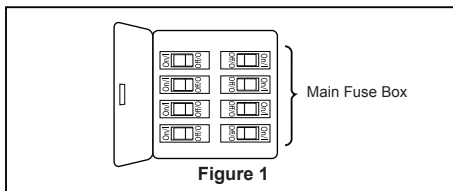
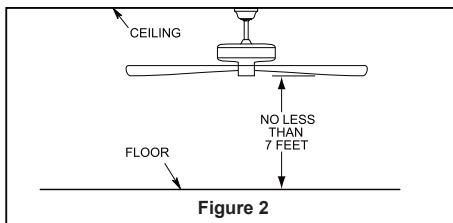
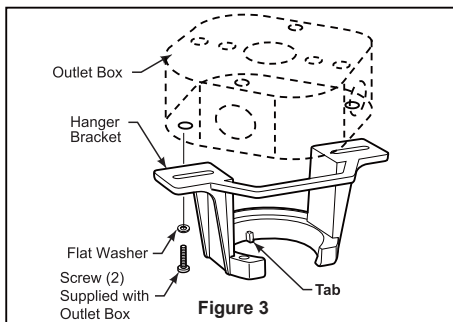

Figure 1
Figure 2
Figure 3
Your new ceiling fan will require a grounded electrical supply line of 120 volts AC, 60 HZ, 15 Amp Circuit. Electrical code requires use of a fan-rated outlet box to support the extra weight and motion associated with a ceiling fan. A fan-rated box will be labeled as such and typically supports up to a 70lb ceiling fan. Fan-Rated Outlet Boxes vary in ratings and design. Ensure the ratings of your ceiling fan outlet box meet the requirements for the ceiling fan being installed. Figure 1, Figure 2 and Figure 3 depicts different structural configurations that may be used for mounting the outlet box.
Low profile box (Figure 1)
Deep box (Figure 2)
Deep box with brace (Figure 3)
1. Remove the hanger ball portion from the downrod/hanger ball assembly by loosening the set screw in the hanger ball until the ball falls freely down the downrod. Remove the pin from the downrod, then remove the hanger ball. Retain the pin and hanger ball for reinstallation in Step 7. (Figure 1)
2. Remove the hairpin clip and clevis pin from the bottom of the downrod. Retain the pin and clip for reinstallation in Step 5. (Figure 2)
3. Remove the three stabilizer tabs and plastic bag from the motor. Discard the stabilizer tabs. (Figure 3)
To avoid possible fire or shock, be sure electricity is turned off at the main fuse box before hanging. (Figure 1)
The fan must be hung with at least 7' of clearance from floor to ceiling fan. (Figure 2)
1. Securely attach the hanger bracket to the outlet box (not included) using the outlet box screws and washers supplied with the outlet box. (Figure 3)
1. To set the code on receiver unit, slide dip switches to the same positions as set on the remote control. (Figure 1)
To avoid possible electrical shock, be sure electricity is turned off at the main fuse box before wiring. (Figure 2)
2. Slide the receiver into the hanger bracket before wiring as shown in figure 3.
1. Assemble canopy by rotating key slot in canopy over shoulder screw in hanger bracket, taking care not to pinch the wires. Tighten shoulder screw. Fully assemble and tighten second shoulder screw that was previously removed. (Figure 1)
2. Securely attach and tighten the canopy screw cover over the shoulder screws in the hanger bracket utilizing the key slot twist-lock feature. (Figure 2)
1. Carefully slide the blade through the slot as shown. Securely fasten the seven blades with serrated head screws with flat washers. Do not over-tighten. (Figure 1)
- 1. Remove one of the three screws in the support bracket at the bottom of the motor assembly. Retain the screw for later and slightly loosen the remaining two screws. (Figure 1)
- 2. Assemble the light kit to the support bracket using the two key slots in the light kit. Replace the previously removed screw and securely tighten all three screws. (Figure 2)
- 3. Remove one of the three screws in the light kit. Retain the screw for later and slightly loosen the remaining two screws. (Figure 3)
1. **IMPORTANT:** Using a full range dimmer switch (not included) to control fan speed will damage the fan. To reduce the risk of fire or electrical shock, do not use a full range dimmer switch to control the fan speed. (Figure 1)
2. Restore electrical power to the outlet box by turning the electricity on at the main fuse box. (Figure 2)
3. Remove the battery cover from remote control by screwdriver and retain the screw for later. (Figure 3)